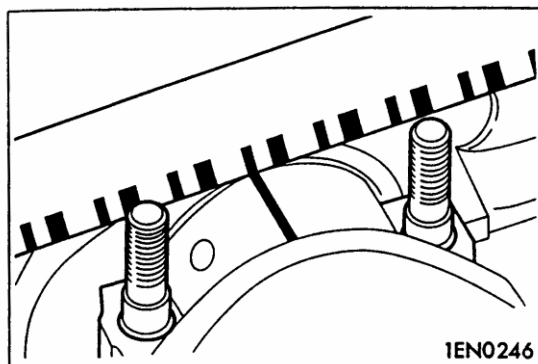

Fig.4-92
- (1) Wipe all oil off the crankshaft pin and connecting rod bearing.
- (2) On the pin, place a plastic gauge that is cut to the same length as the bearing's width. The plastic gauge must be centered on the pin in parallel with the pin's axis.
- (3) Gently place the connecting rod cap in position and tighten the bolts to the specified torque.
- (4) Remove the bolts and gently remove the connecting rod cap.
- (5) Measure the compressed part of plastic gauge at its widest point using the scale printed on the plastic gauge bag, see Fig.4-92.